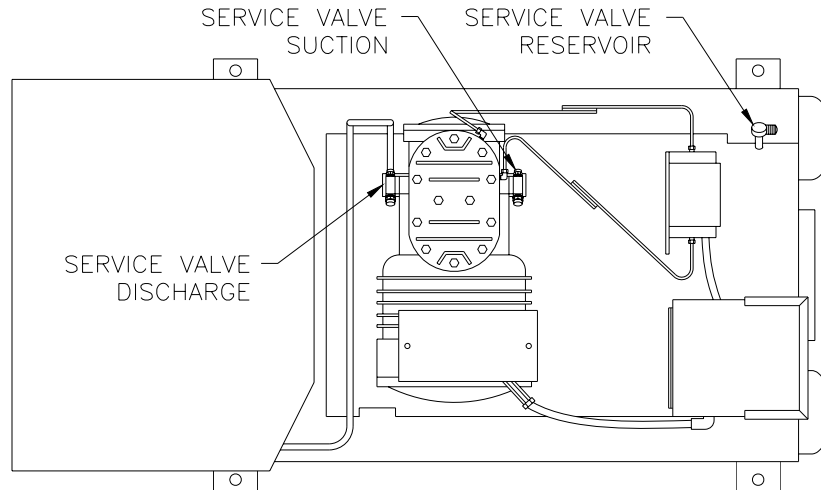

Figure 4-2
- B. Prepare the storage unit for filling: (See figure 4-2)